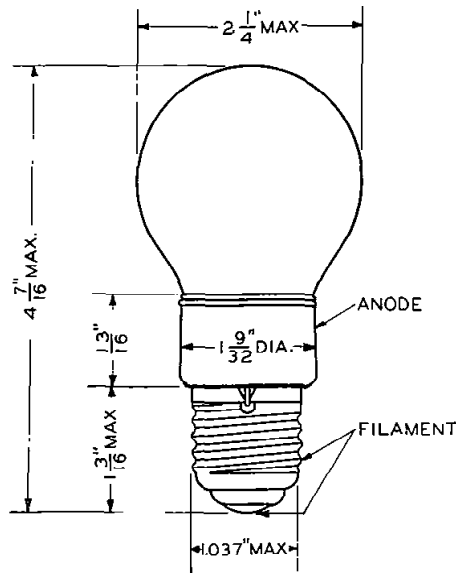

FIG. 1
**Dimensions—**The dimensions and outline diagram are given in Figure 1. The overall dimensions are:
**Mounting—**This tube employs a 3 connection, skirted medium screw base. Overall dimensions are shown in Figure 1.
**Dimensions—**Dimensions, outline diagrams of the tube and base, and the arrangement of the electrode connections to the base terminals are shown in Figures 1 and 2.